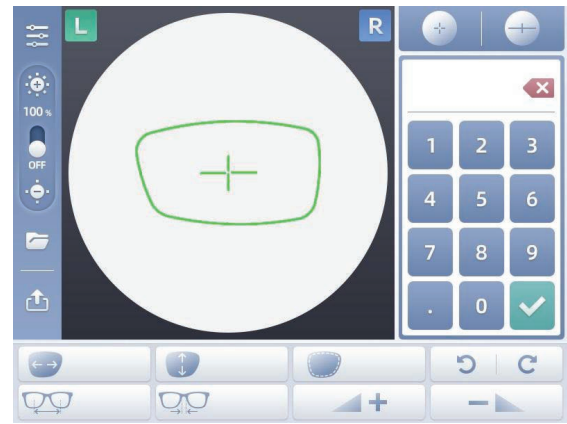

Figure 7
4. When the lens liner pattern is collected, the screen automatically pop out the nose distance input window, as shown in Figure 7. Please enter the nose value and press to confirm. If you need to change the data again, press the nose and distance adjustment key "+" and "-".